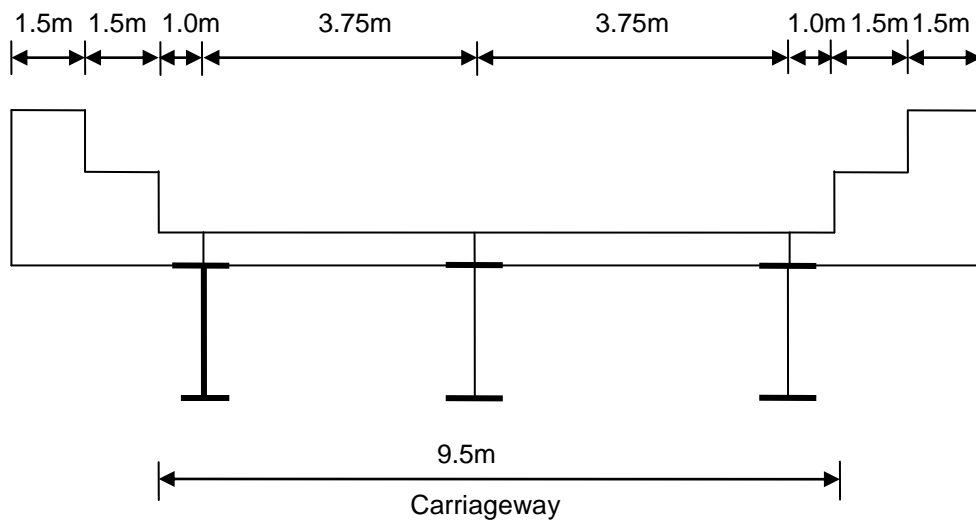

Figure 2 : Cross-Section of Carriageway
- (b) A solid slab highway bridge, with cross-section as shown in Figure 2, has a right (total width) of 12m, a slab thickness of 225mm and skew of  $0^\circ$ . The specified highway loading is HA and 45 units of HB. The nominal superimposed dead load is equivalent to a uniformly distributed load of  $2.5 \text{ kN/m}^2$ , and the nominal parapet loading is  $3.5 \text{ kN/m}$  along each free edge. Calculate the total ULS loads in edge girder and inner girder (assume dead load as 50kN). Calculate the moments for HA loading for edge and inner girder and determine the maximum moment of HB loading with the following data :